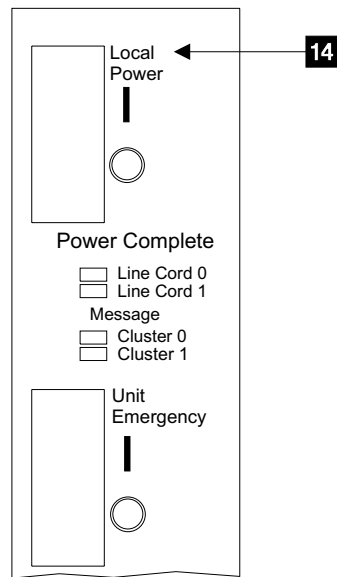

Figure 58. 2105 Model Exx/Fxx Operator Panel Switches (t007596m)
- e. Press the 2105 Model Exx/Fxx operator panel Local Power switch to On (I, up) **14**, in Figure 58 on page 77, then release it.